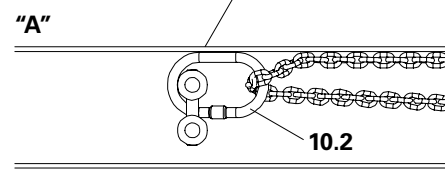

Fig. A3.01a
2. Insert hook (10.5) and Ring 1 (10.1) through Ring 2 (10.2) and pull through. (Fig. A3.01a)